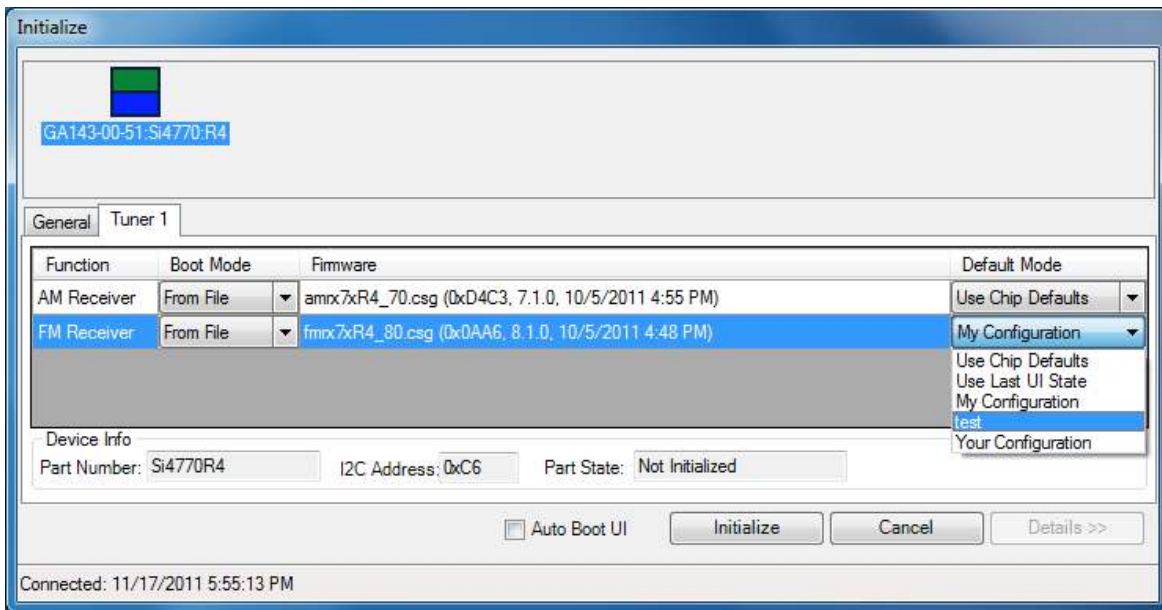

Figure 20. Selecting Imported State File
3. Once the state file is imported it will show up in the Default Mode of the Initialization window. In Figure 20 below the test.ini file was imported using Import State File and once that was done it shows up in the default mode in the Initialization window.